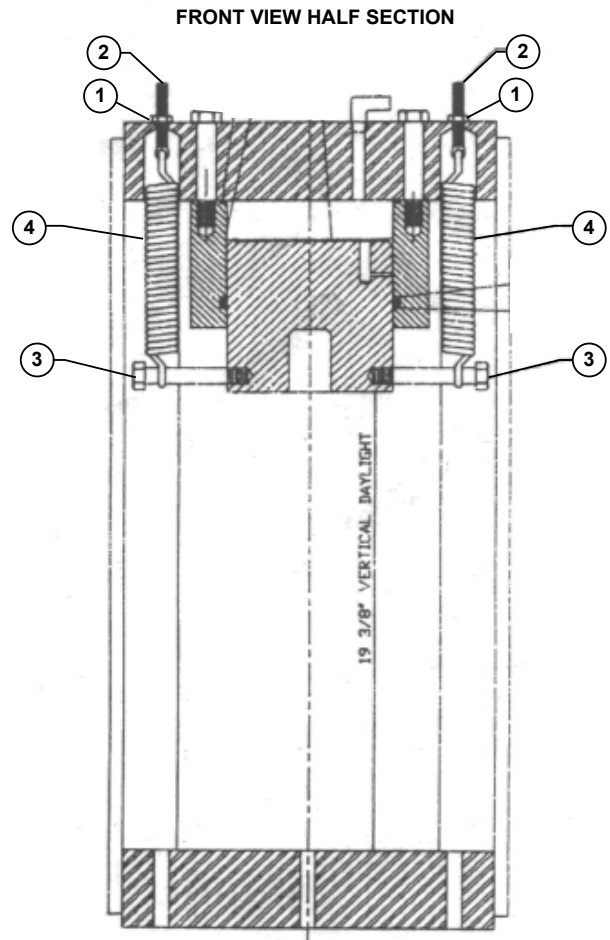

Figure 1
5. On the top of the machine, loosen the 3/8in nuts (Part 1) to the end of the tension rod threads (Part 2) and stop. Refer to Figure 1 on page 2.